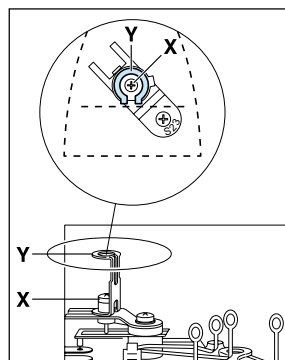

Fig. 1
Set the bracket (Y) in position as shown in fig. 1
By turning bracket (Y) freely, check if the thermostat switches when the bracket is in the position of fig. 1.